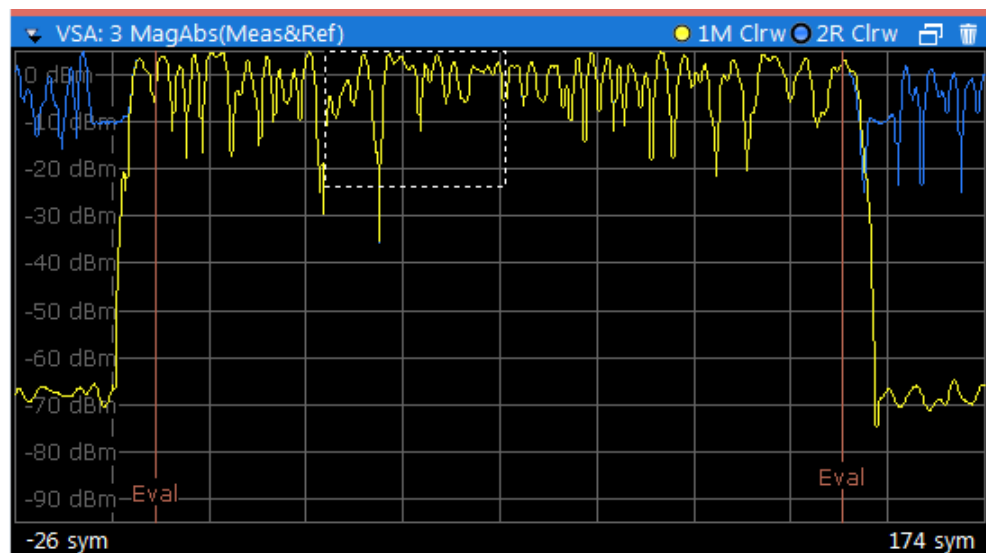

Fig. 8-12: Zooming
4. Select "Clear Write" as the "Trace Mode" and "Evaluation: Ref". This adds a second trace to your result display. This trace is the ideal reference signal that can now be compared to the measurement signal (see figure 8-12).
5. To view the traces in more detail zoom into the display using the "Single Zoom" icon in the toolbar (see the dotted rectangle in figure 8-12).